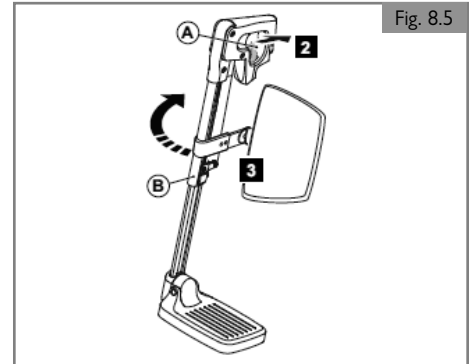

Fig. 8.5
8.4 Swing away leg rests (Fig. 8.5)**Removing a swing away leg rest**